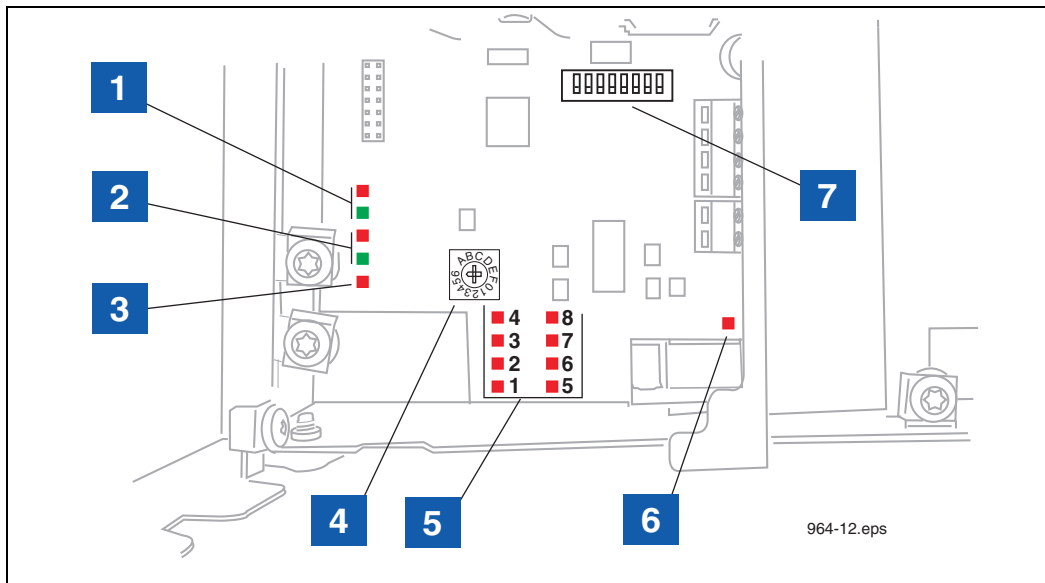

Figure 12. TLS RF Diagnostic LEDs and Switch Locations
- a. Plug the TLS RF's ac power cord into a 120/240 Vac outlet. Confirm the Green /Red LEDs (refer to item 2 in Figure 12), are flashing rapidly. This is an indication there is RS-485 network activity between the TLS RF and the Receiver.
- c. If it is not, check PWR LED (refer to item 3 in Figure 12), if not lit; check power wiring. If the wiring is correct, measure the voltage across the twisted pair power wires, it should read +15Vdc. If it is not, the TLS RF is bad.
- d. If the Red LED (refer to item 2 in Figure 12) is not flashing, confirm the TLS RF address is set to Master (refer to Appendix C, Figure C-1 on how to set the TLS RF Device Number). If it is, the TLS RF has failed.
- b. Go to the TLS RF, open its cover. One of the 8 Red received LEDs should be flashing (refer to item 5 in Figure 12). Observe which LED is lit and compare it against the Transmitter Device Number; they should match. For example, if the Transmitter ID is set to 1, the LED number 1 in the TLS RF should be flashing.
2. In this example, device output 1 is a Mag probe - Observe polarity. Note: each time a transmission is received from this device, LED 1 (see item 5 in Figure 12) will flash.
3. In this example, device output 2 is a Mag Sump Sensor - Observe polarity. Note: each time a transmission is received from this device, LED 2 (see item 5 in Figure 12) will flash.
Figure 12 shows the diagnostic LEDs and setup switches in the TLS RF.
LEGEND FOR NUMBERED BOXES IN Figure 12